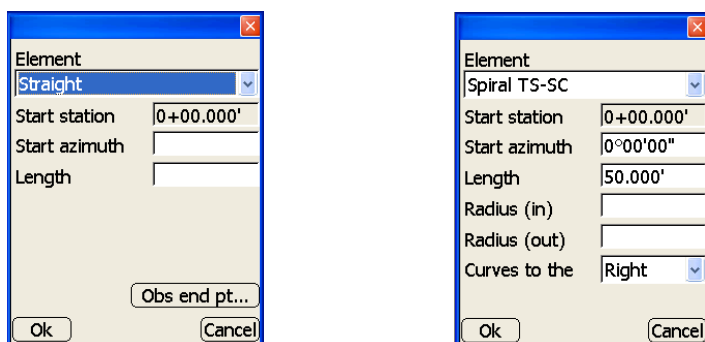

Figure 3-34. Centerline Elements Parameters Dialog Box
- **Add** – on the *centerline elements* dialog box, press **Add** to enter a new centerline element (Figure 3-34 on page 3-22).